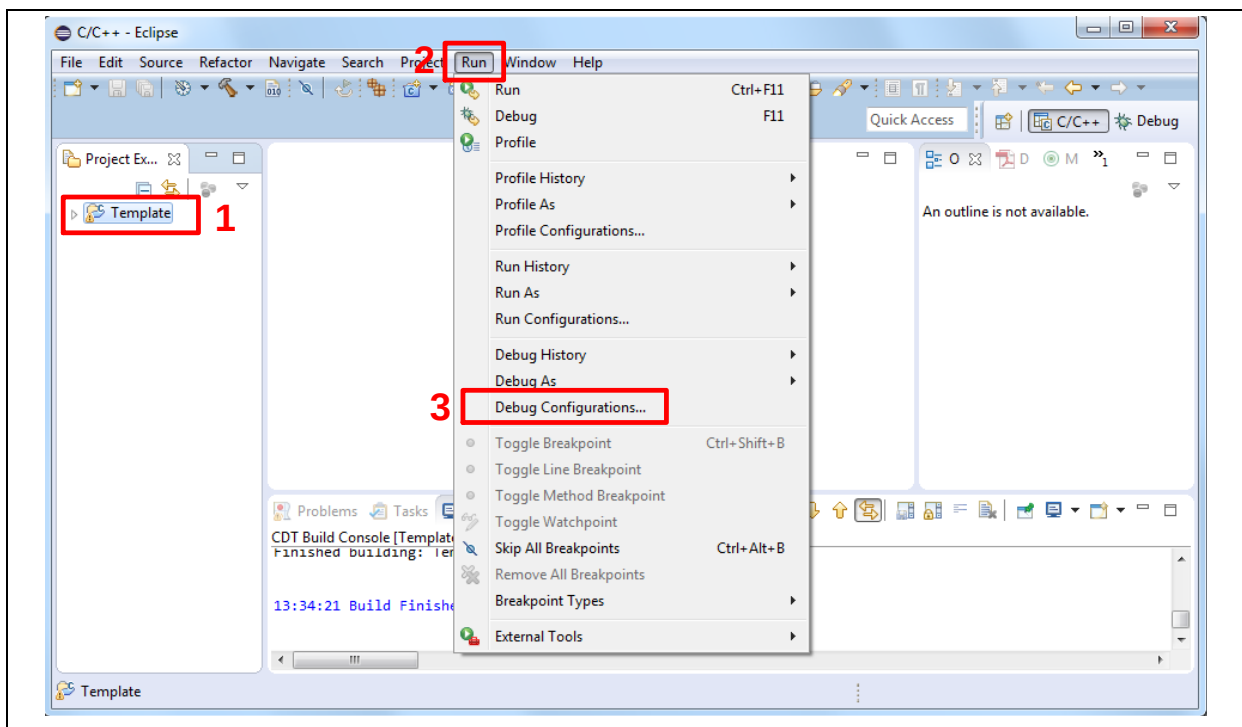
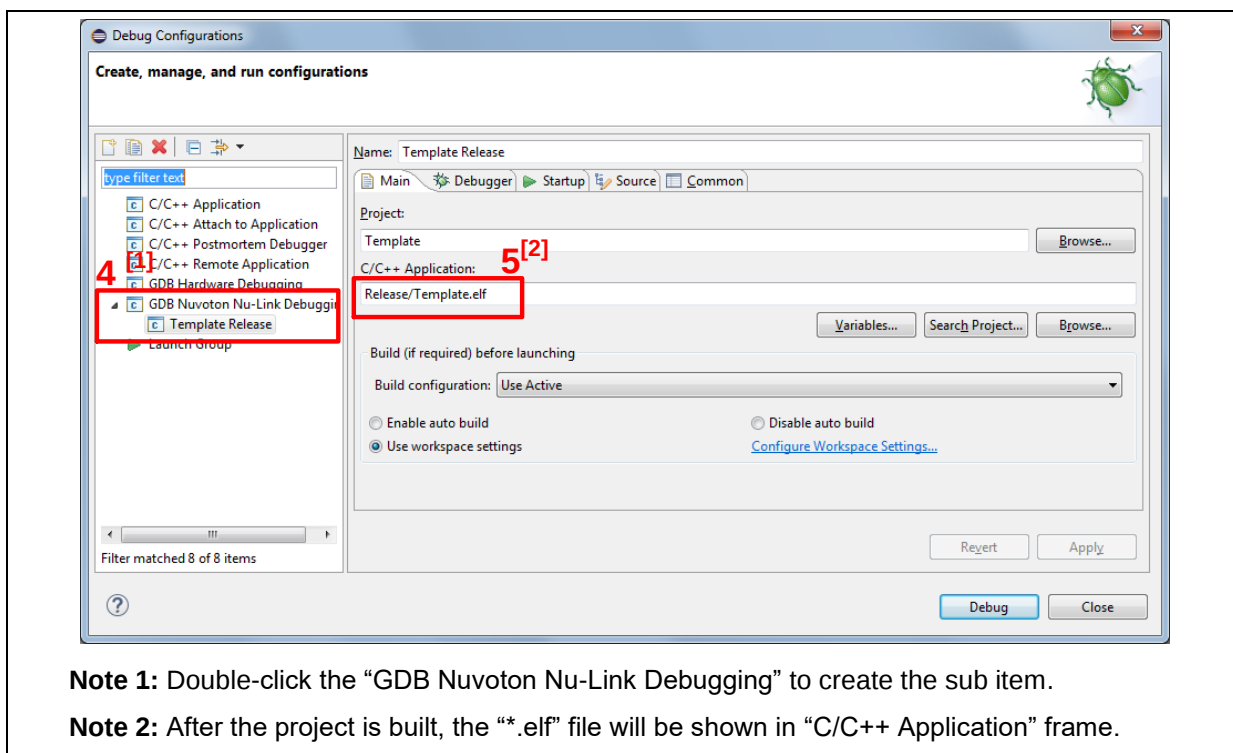
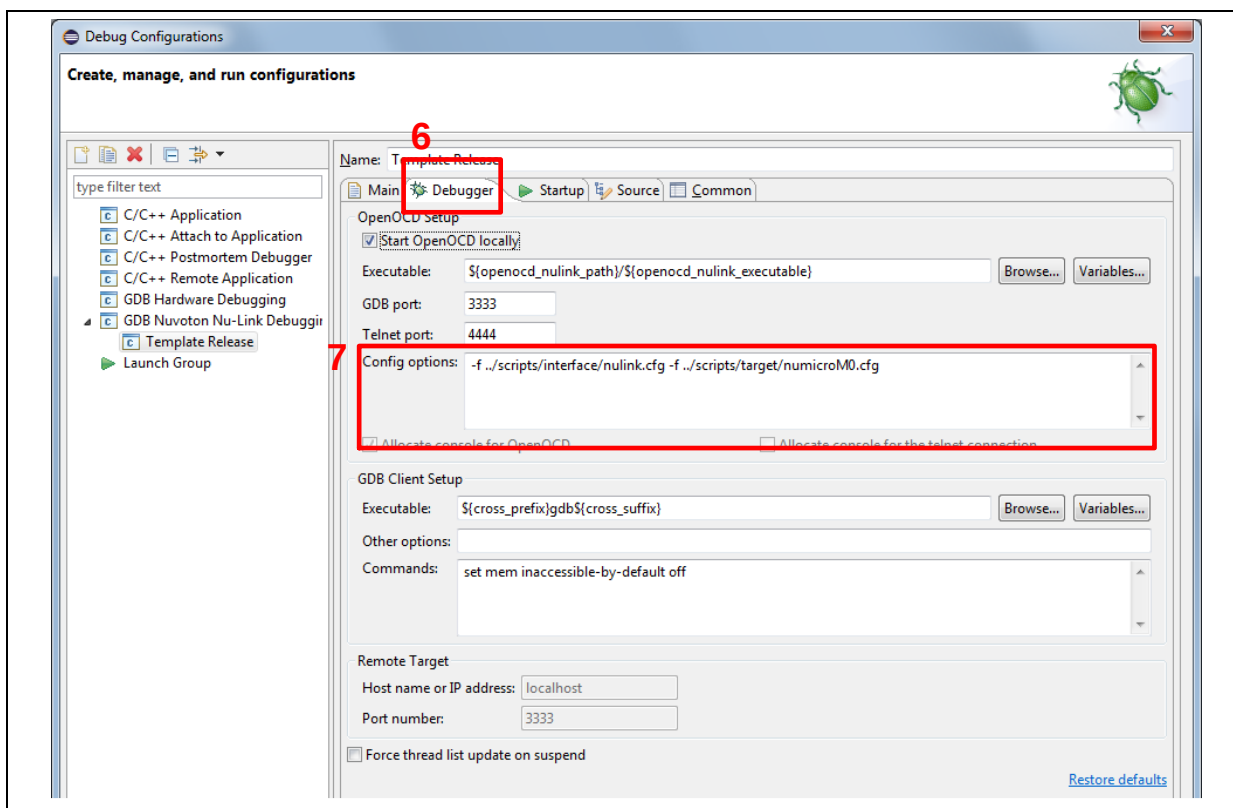
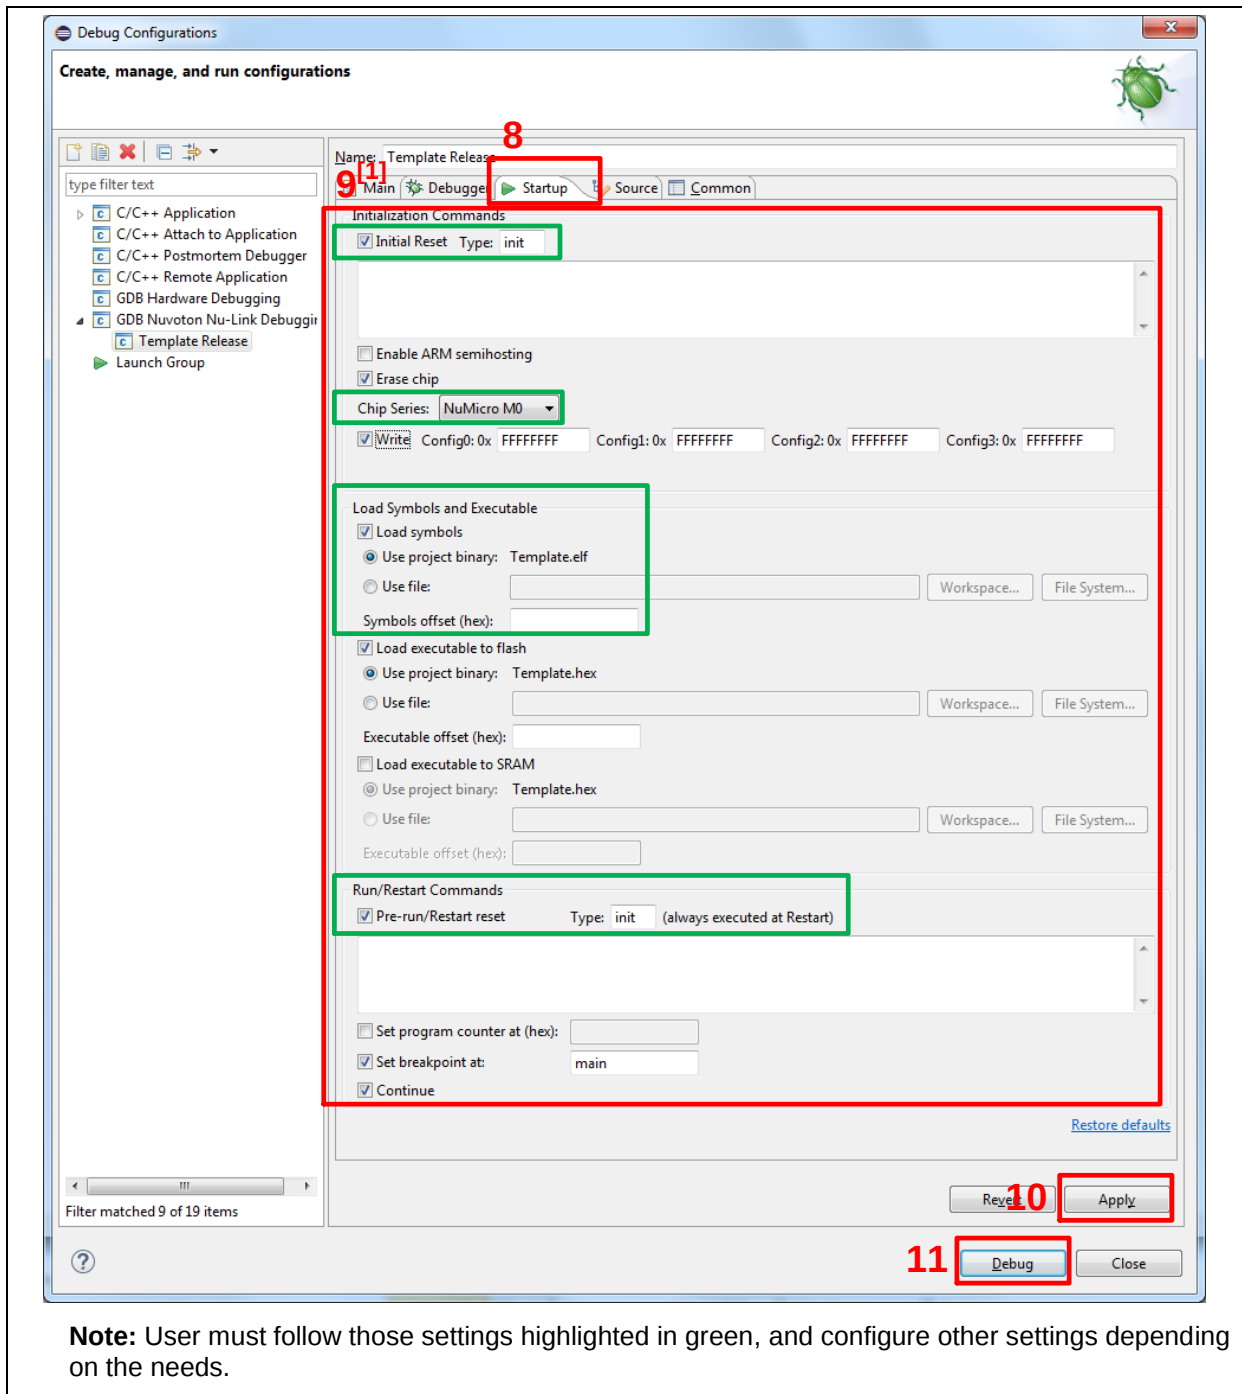

Figure 5-24 Open Debug Configuration
Figure 5-25 Main Tab Configuration
Figure 5-26 Debugger Tab Configuration
Figure 5-27 Startup Tab Configuration
5. After the project is built, click the “Template” project and set the “Debug Configuration” as shown in Figure 5-24. Follow the settings presented in Figure 5-25, Figure 5-26 and Figure 5-27 to enter debug mode.